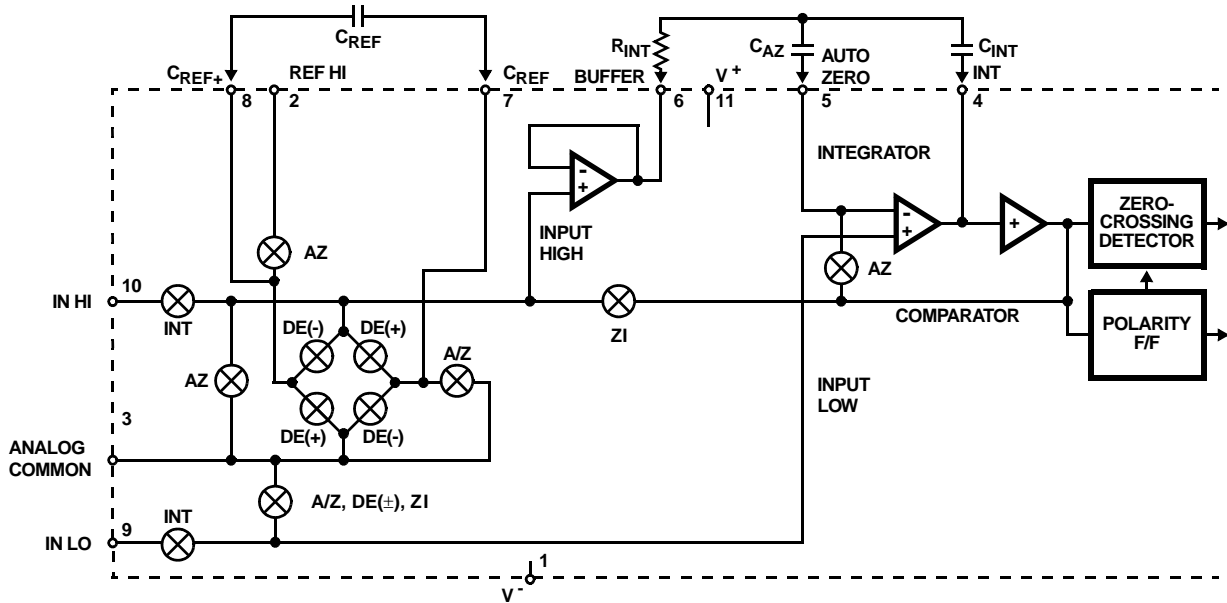

FIGURE 3. ANALOG SECTION OF ICL7135
3. Tested in 41/2 digit (20,000 count) circuit shown in Figure 3. (Clock frequency 120kHz.)
Figure 3 shows the Block Diagram of the Analog Section for the ICL7135. Each measurement cycle is divided into four phases. They are (1) auto-zero (AZ), (2) signal-integrate (INT), (3) de-integrate (DE) and (4) zero-integrator (ZI).